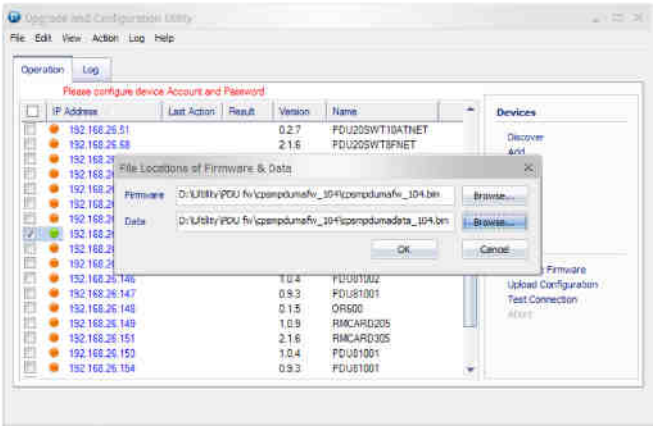

Figure 4
7. Click **Browse** to locate and select the firmware and data file to be updated (Shown in Figure 4).